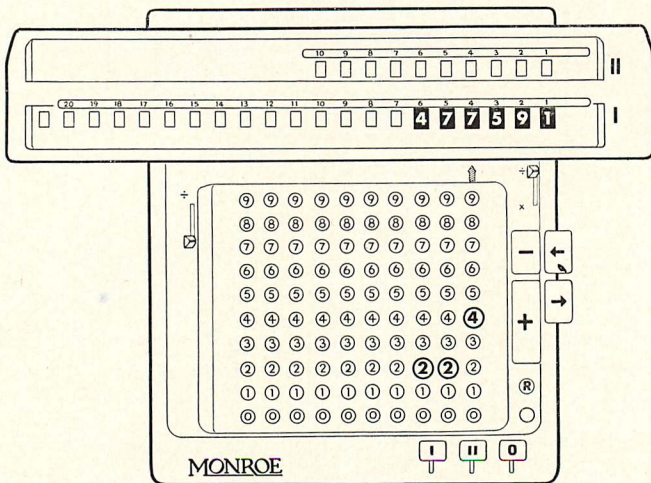

Figure 7
*Step 2*—Set the divisor, 224, on the right of the keyboard and move the carriage three places to the right with carriage shift bar so that the divisor, 224, is in direct alignment with the 477, the first three figures of the dividend. The machine at this point appears as in Figure 7.